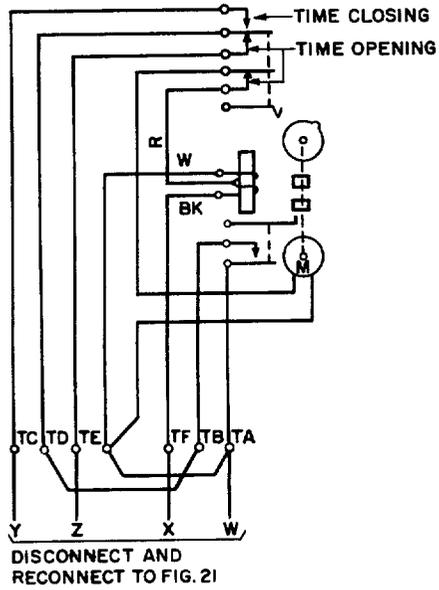

Fig. 15 - Schematic Diagram of CR2820-1099 Time-Delay Relay
(2) Remove the leads from each terminal of the old relay and identify them as shown in the appropriate Fig. 15, 17, or 19. For example, in Fig. 15, the lead connected to the TA terminal will be tagged W. Straps between terminals of the old relay can be removed.
(3) If the leads are not located on terminals as shown in Fig. 15, 17, or 19, check the schematic of the particular compensator or starter in question, as shown in Section 026-305-701, and rearrange the tags in accordance with the schematic figure.